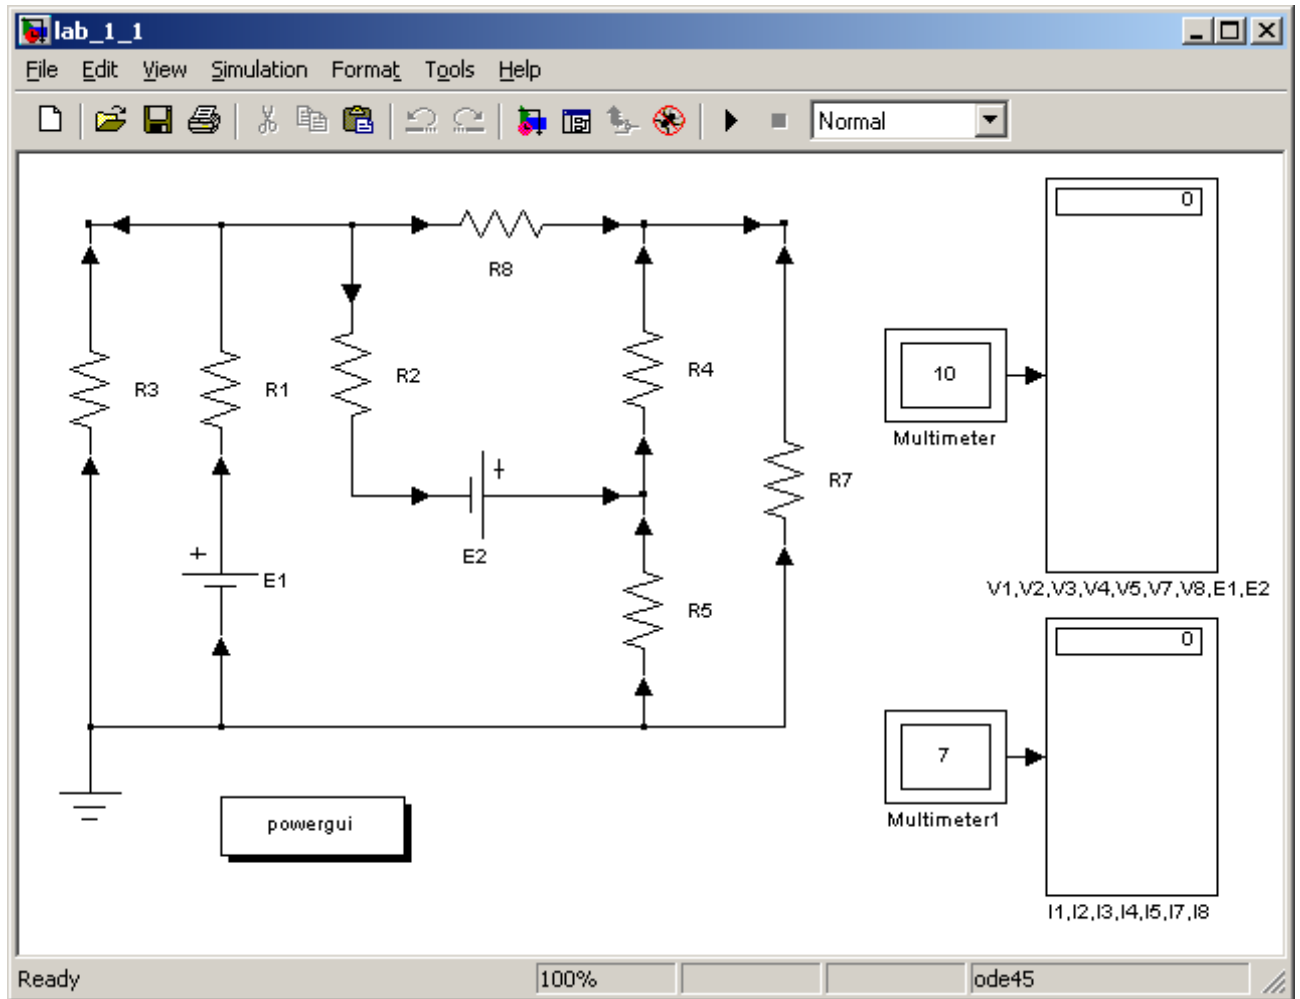

Fig. 5.5. Scheme model
4. Connect the blocks with connecting lines and rename all the elements according to the task (Fig. 5.5)